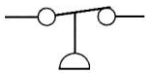

Figure 6-9 Symbol for question 14.
14. Figure 6-9 represents the symbol for a 14. _____